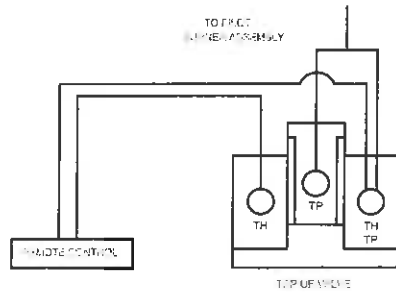
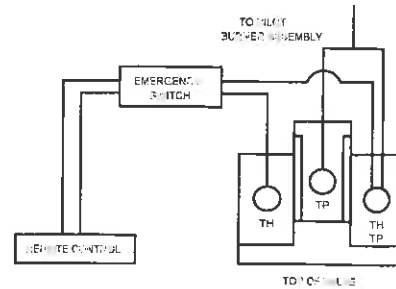

Figure 1
Figure 2
- 2 Connect the leads to the millivolt generator and the main burner to the output cable of the Remote Receiver as shown in Figure 1 (or Figure 2 if the optional Emergency Switch is used).